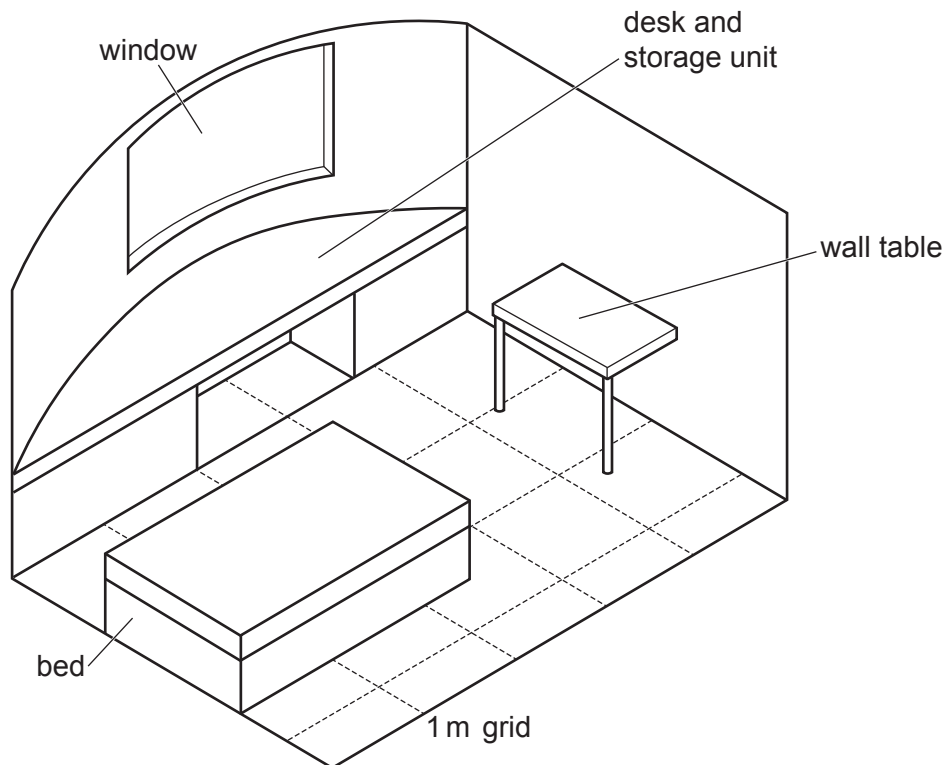

Fig. 7.1
7 Fig. 7.1 shows a design for a hotel room.
- (a) State suitable materials that could be used to make a small scale presentation model of the hotel room shown in Fig. 7.1 and give reasons for your choice. [5]
- (b) Use sketches and notes to describe how a small scale presentation model of the hotel room, shown in Fig. 7.1, could be made in a school workshop. [15]